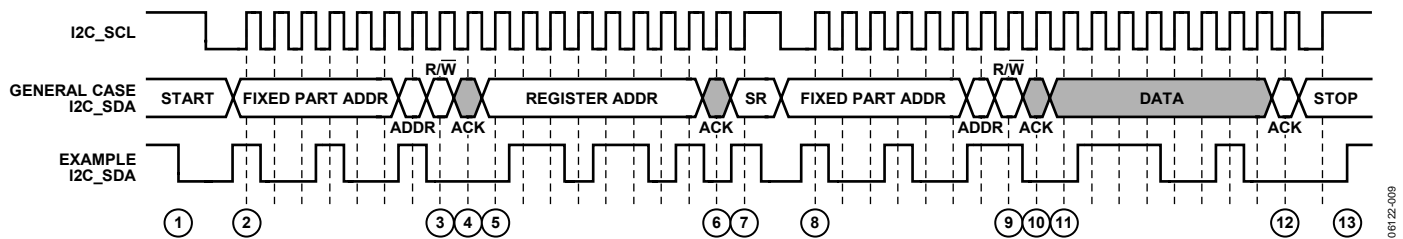

Figure 30. I²C Read Procedure
To read data from the AD8196 register set, an I²C master (such as a microcontroller) needs to send the appropriate control signals to the AD8196 slave device. The signals are controlled by the I²C master unless otherwise specified. For a diagram of the procedure, see Figure 30. The steps for a read procedure are as follows:
9. Send the read indicator bit (1).
- a. Send a stop condition (while holding the I2C_SCL line high, pull the SDA line high) and release control of the bus to end the transaction (shown in Figure 30).